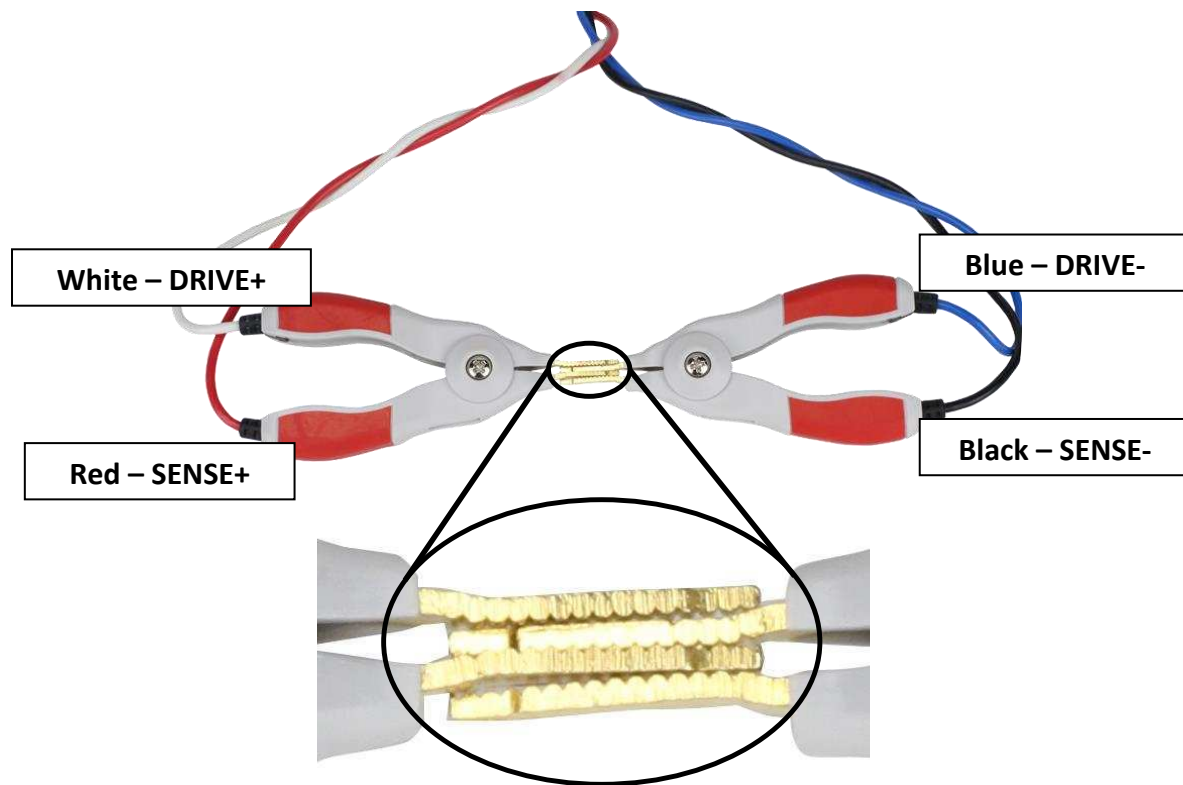

Figure 11 - Short Connection
2. Short the 4-terminal connectors together (see Figure 11).